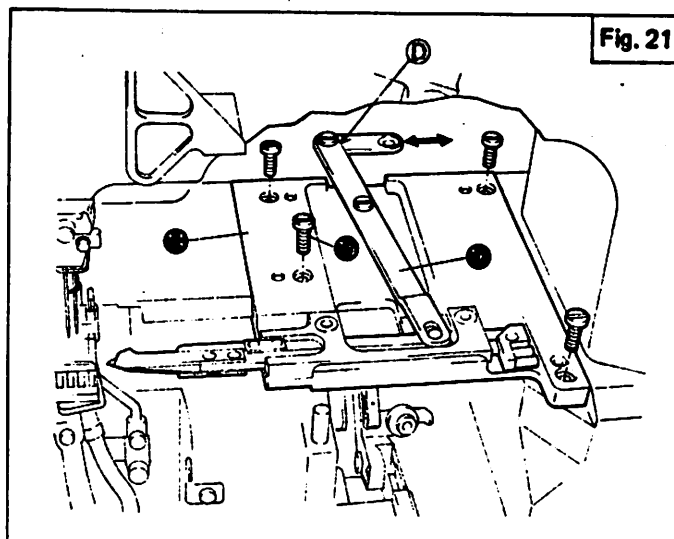

Fig. 21
Refer to Fig. 21 and set ⑤ and ⑥ in sequence.